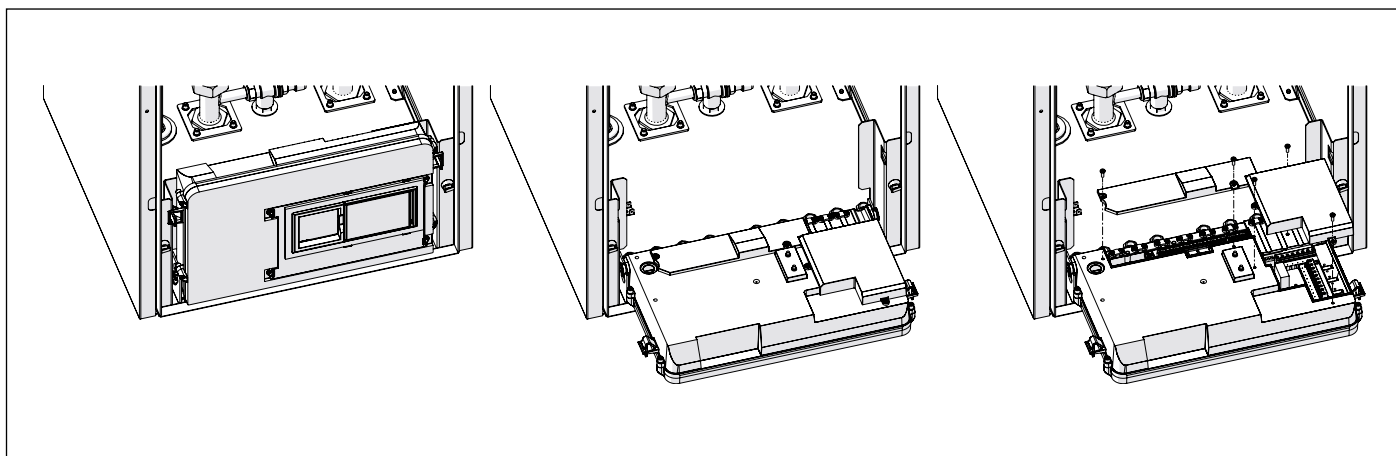

Fig. 35 Electric box
- Rotate the electric box forward by 90° (see Fig. 35 Electric box).
- Remove the two covers of external electrical connections (A and B) by loosening the screws that fasten them to the electric box (see Fig. 35 Electric box).